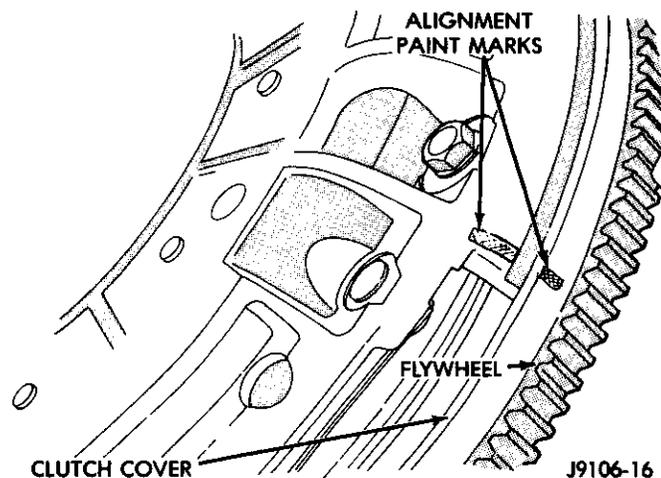
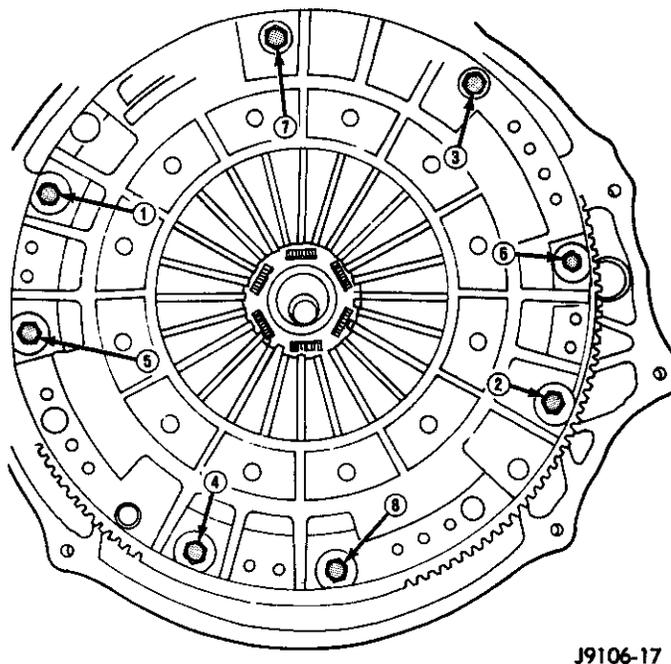

Fig. 2 Marking Clutch Cover Position
Fig. 3 Clutch Cover Bolt Loosening/Tightening Pattern
- (5) If clutch cover will be reused, mark position of cover on flywheel with paint or scribe (Fig. 2).
- (6) Insert clutch alignment tool in clutch disc and into pilot bushing. Tool will hold disc in place when cover bolts are removed.
- (7) If clutch cover will be reused, loosen cover bolts evenly, only few threads at a time, and in a diagonal pattern (Fig. 3). This relieves cover spring tension evenly to avoid warping.
- (8) Remove cover bolts completely and remove cover, disc and alignment tool.